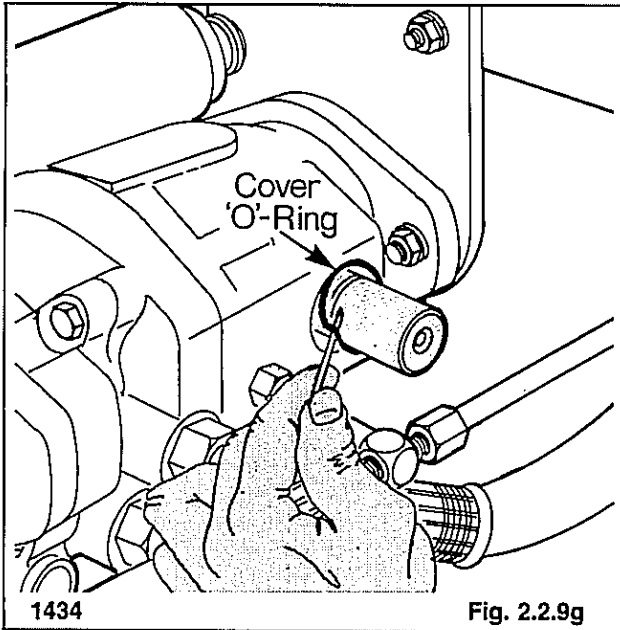

Fig. 2.2.9g
9. Remove the camplate cover O-ring (fig. 2.2.9g).